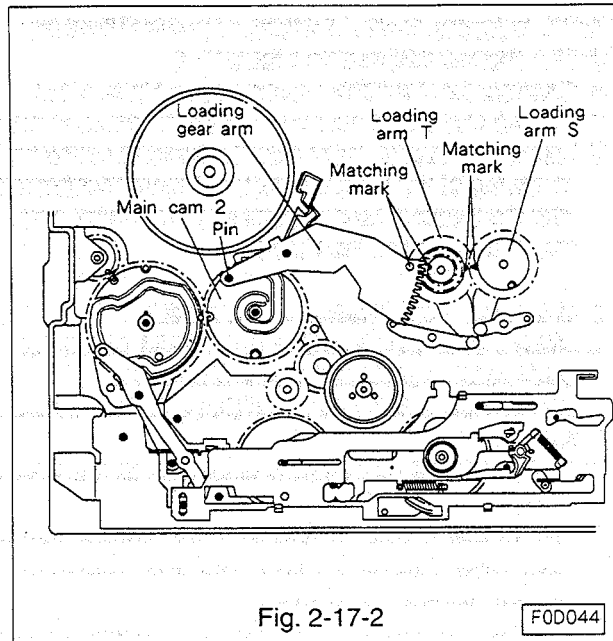

Fig. 2-17-2
- E. Remove the grip ring and remove the loading gear arm.(Refer to Fig. 2-17-2.)
- F. Turn the loading arm S and T to the loading position.(Refer to Fig. 2-17-2.)
- B. If the takeup tape guide is replaced, install the loading arm T first.(Refer to Fig. 2-17-2.)
- C. Install the loading arm S so that the matching mark of the loading arm S is lined with the matching mark of the loading arm T as illustrated in Fig. 2-17-2.